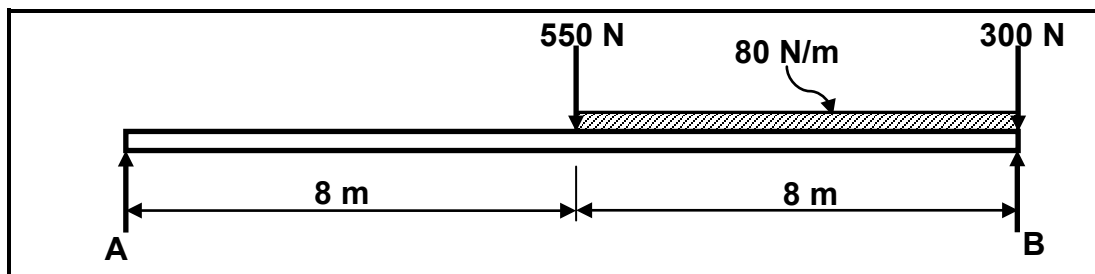

FIGURE 7.3
7.3 FIGURE 7.3 below shows a uniform beam that is supported by two vertical supports, **A** and **B**. A uniformly distributed force of 80 N/m is exerted over the right half of the beam. Determine, by means of calculations, the magnitudes of the reactions in supports **A** and **B**.